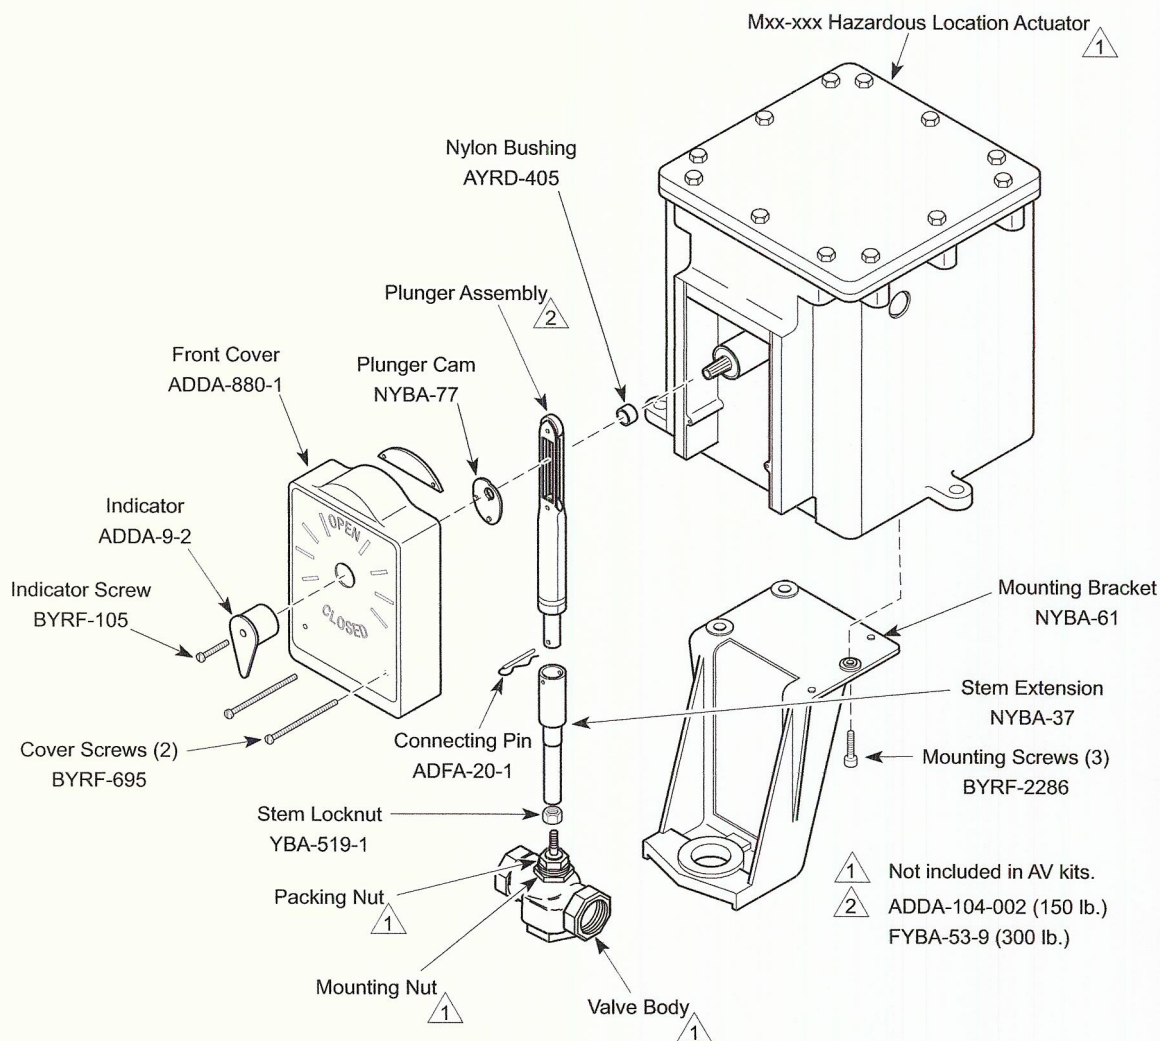

Figure-1 Valve Linkages for 1/2" to 2" VB-7xxx.
1. Mount the bracket on the valve body by screwing the mounting nut into the mounting bracket. Tighten the hex mounting nut, using a 1-5/8" open-ended wrench with a maximum thickness of 3/16" (TOOL-37). See Figure-1. Proceed to step 2 in AV29x Valve Linkage Common Procedure on page 6.